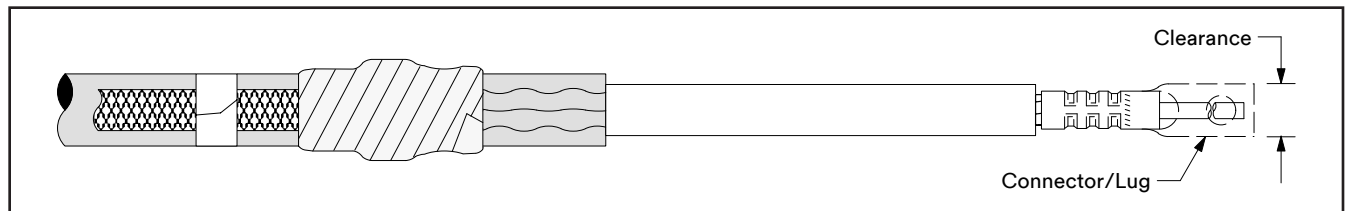

Figure 25
- 14.1 Check to insure 3M Cold Shrink QT -III Silicone Rubber Termination fits over the selected lug or connector BEFORE installing the lug or connector.** If lug or connector (Figure 25) will not fit through the termination core, clean the insulation (per Step 15.0) and slide termination on cable before installing lug or connector. **DO NOT REMOVE CORE AT THIS TIME.**